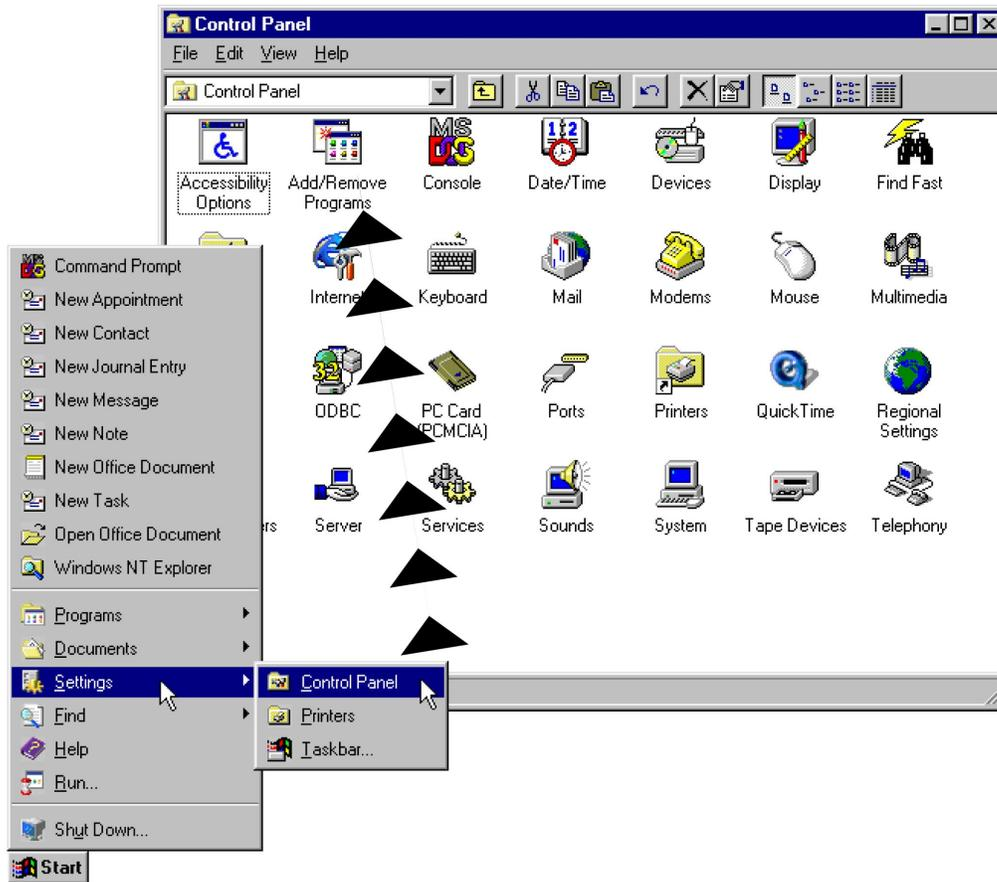

Figure 3. Accessing Windows Facility for Installing New Software.
- 3. Choose "Settings", then "Control Panel" on the menu (see Figure 3).**